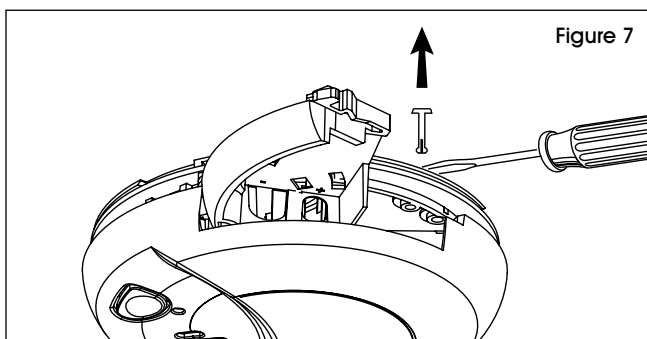

Figure 7
3. Gently pry locking pin out of the battery compartment lock. (See Figure 7) If planning to relock the battery compartment, save the locking pin.